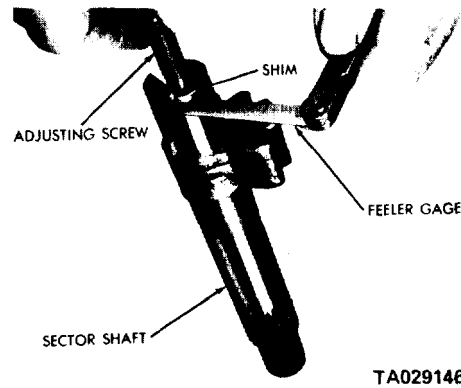

Figure 21-8. Checking Lash Adjuster End Clearance.
(1) Hold the gear housing in a vise by clamping a mounting lug in the vise, with the wormshaft bore in a horizontal position and the side cover opening facing upward.
(2) With the upper ball bearing on the wormshaft, install the wormshaft and nut assembly into the housing, positioning the wormshaft through the upper ball bearing cup and seal.
(3) Assemble the ball bearing and seal into the wormshaft adjuster plug. Press the retainer into position.
(4) Place the adjuster and locknut into position, guiding the wormshaft into the bearing. Tighten the adjuster until very little wormshaft end play remains.
(5) Place the sector shaft lash adjuster screw, with shim, in the slotted end of the sector shaft. With the adjuster screw positioned in the slot at the end of the sector shaft, check the end clearance of the screw (figure 21-8). Hold the clearance to 0.002 inch or less. A selection of four shims having thicknesses of 0.063, 0.065, 0.067, and 0.069 inch are available.
(6) Lubricate the steering gear with GAA grease. Turn the wormshaft until the ball nut is at the end of its travel. Pack as much lubricant into the housing as possible, without losing it out of the sector shaft opening. Turn the wormshaft until the ball nut is at its other extreme. Pack as much lubricant into the housing as possible.